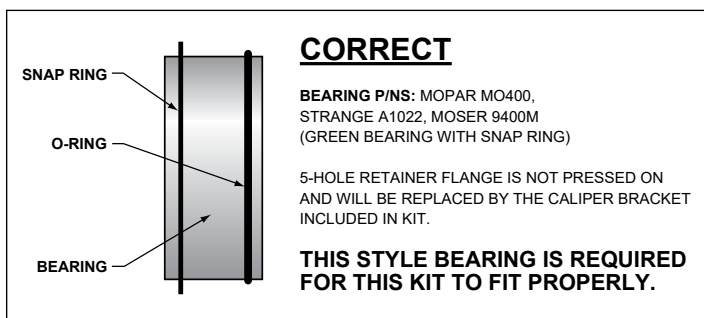
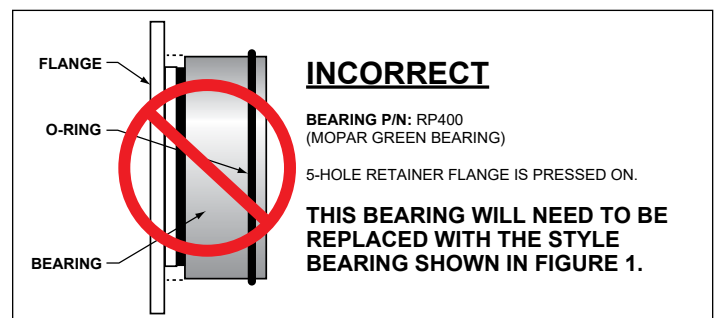

Figure 1. Snap Ring Bearing Configuration
Figure 2. Press Fit Bearing Configuration
- There are two types of “Green Bearings” being supplied by axle manufacturers. Your setup should look like Figure 1 (below left), not the Figure 2 configuration, otherwise this kit will not fit.
**NOTE:** Numbers in parenthesis refer to the parts list and Figure 1 on the preceding pages.
- Determine that the appropriate snap ring style Green bearing has been installed on the axle, as shown in Figure 1.